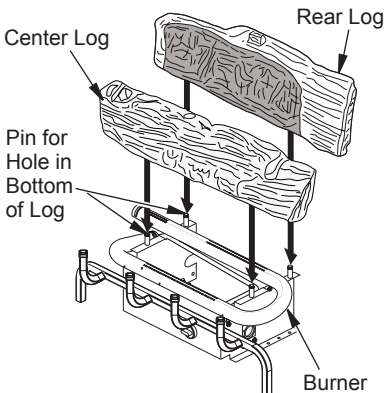

Figure 17 - Installing Rear and Middle Logs
1. Place rear log onto base. Holes in bottom of log must seat over pins on base as shown in Figure 17.
2. Place center log onto base. Holes in bottom of log must seat over pins on base as shown in Figure 17.